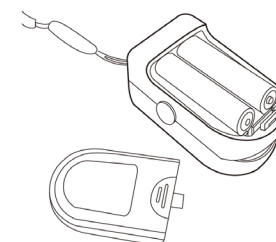

Figure 5. Batteries Installation
- Step 1. Refer to Figure 5. and insert the two AAA size batteries properly in the right direction.